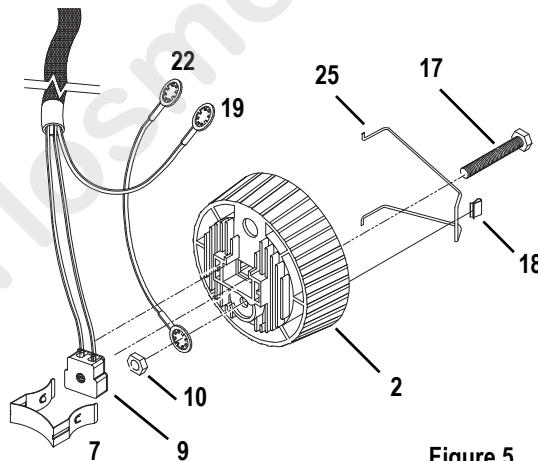

Figure 5
Step 12: Insert the bolt (17) through the light baffle socket casting (2). See Figure 5.
Step 13: Install the green ground wire assemblies (19 and 22) on the bolt (17) with the prongs on the crimped connectors toward the casting. Run both wires through the indent in the lip around the bolt hole. Secure with nut (10) and tighten securely (60 inch pounds).
Step 14: Place the socket assembly (9) into the light baffle socket casting (2). Be sure it is well seated.
- Step 15: Install the lamp retainer spring (7). The lamp retainer spring secures the socket. Insert the spring one end at a time, making sure the rectangular slot in each side of the spring seats on the corresponding tab in the casting.